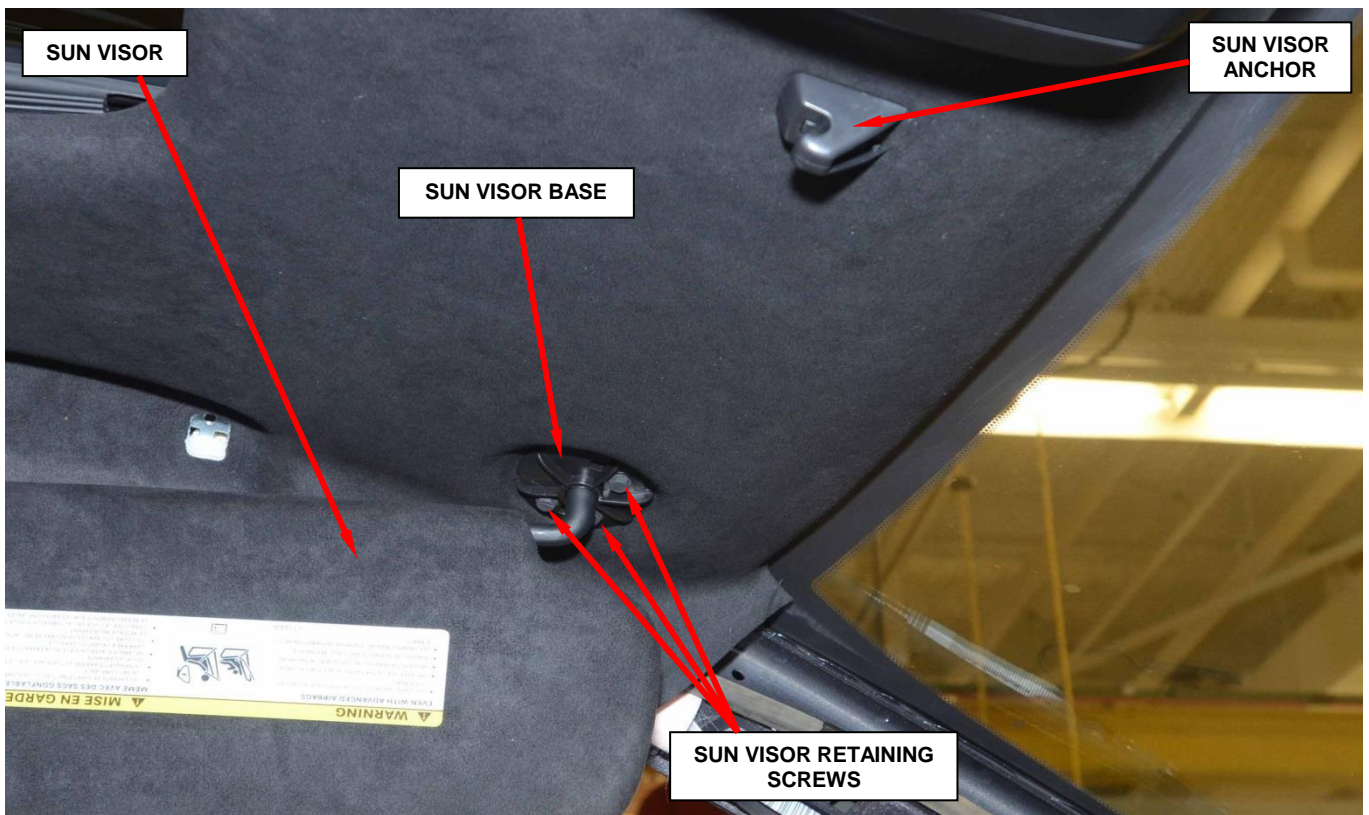

Figure 8 – Sun Visor Retaining Screws and Anchor
19. Remove and save the right and left side sun visor screw covers (Figure 8).
21. Remove and save the right and left side sun visor anchors (Figure 8).
25. Remove and discard the three retaining screws holding the right and left side sun visors (Figure 8).